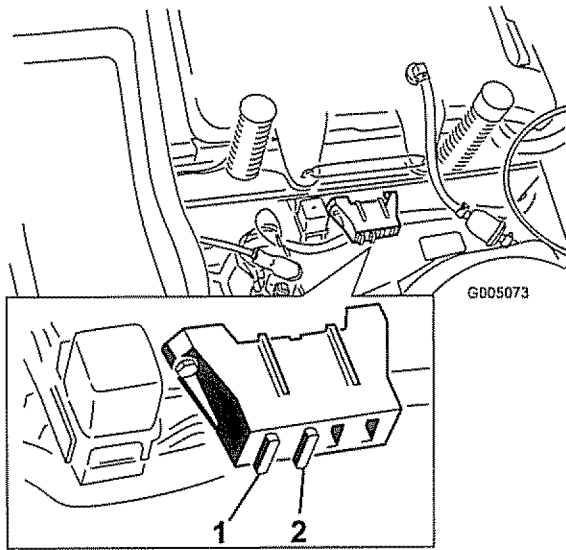

Figure 36
1. Raise the seat to gain access to the fuse holder (Figure 36).
2. To replace a fuse, pull out on the fuse to remove it (Figure 36).